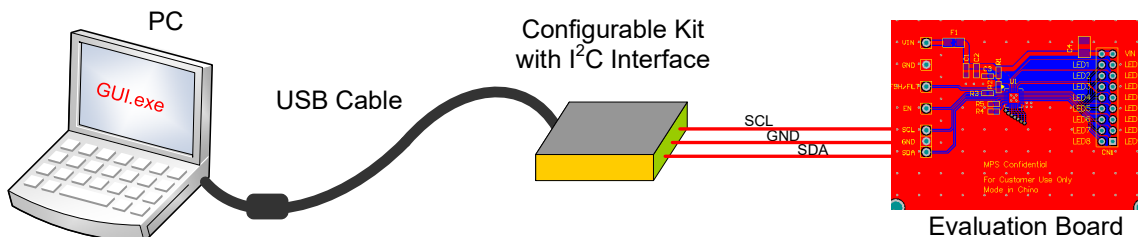

Figure 1: I²C Connection Diagram
4. Connect the SCL, SDA, and GND pins on the evaluation board to their respective pins on the configuration kit (EVKT-USBI2C-02) (see Figure 1)